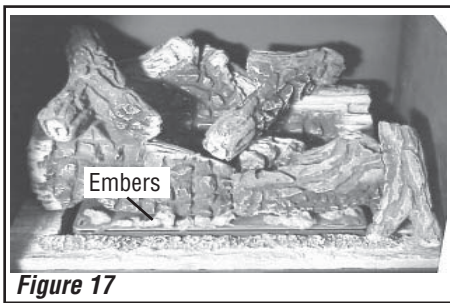

Figure 17
9. Place the glowing embers on the burner as shown in figures 17 & 18.
IMPORTANT: The quantity and placement of the ember material can affect stove performance therefore it is very important that it be placed as shown in figures 17 & 18.